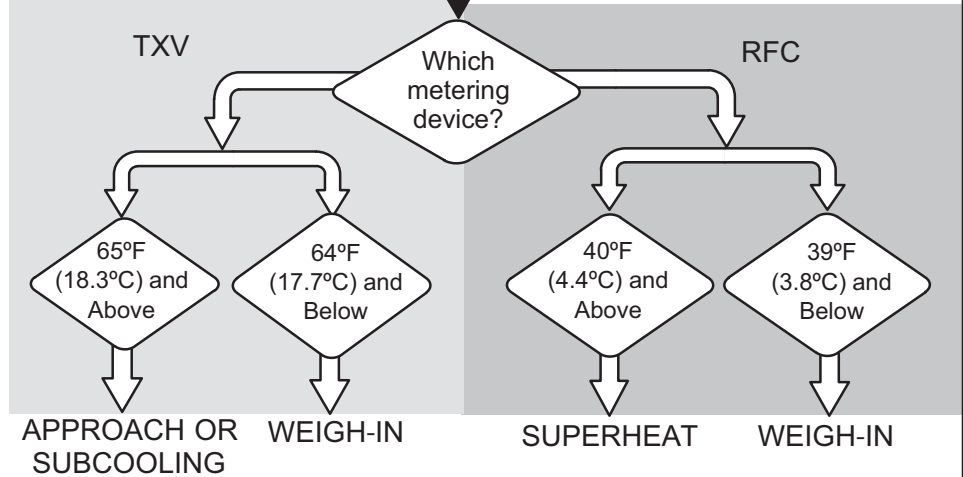

FIGURE 20. Determining Charge Method
- 5 - Weigh in refrigerant using procedure outlined in figure 20.
This system uses HFC-410A refrigerant which operates at much higher pressures than HCFC-22. The pre-installed liquid line filter drier is approved for use with HFC-410A only. Do not replace it with components designed for use with HCFC-22. Check airflow using the Delta-T (DT) process using the illustration in figure 20.